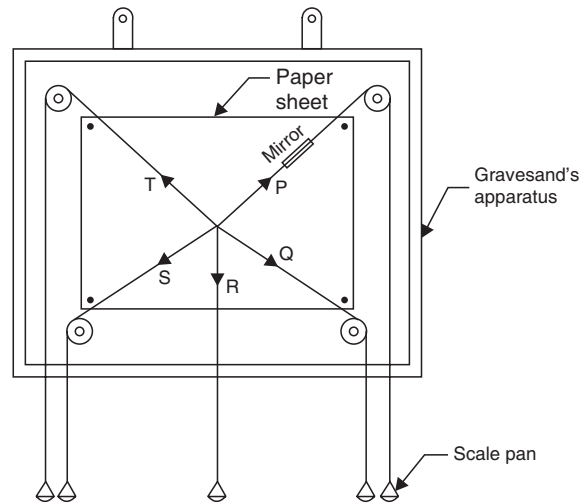

Fig. 2.1
**Procedure.** Refer to Fig. 2.1
6. Attach pans to the free ends of the threads as shown in Fig. 2.1.